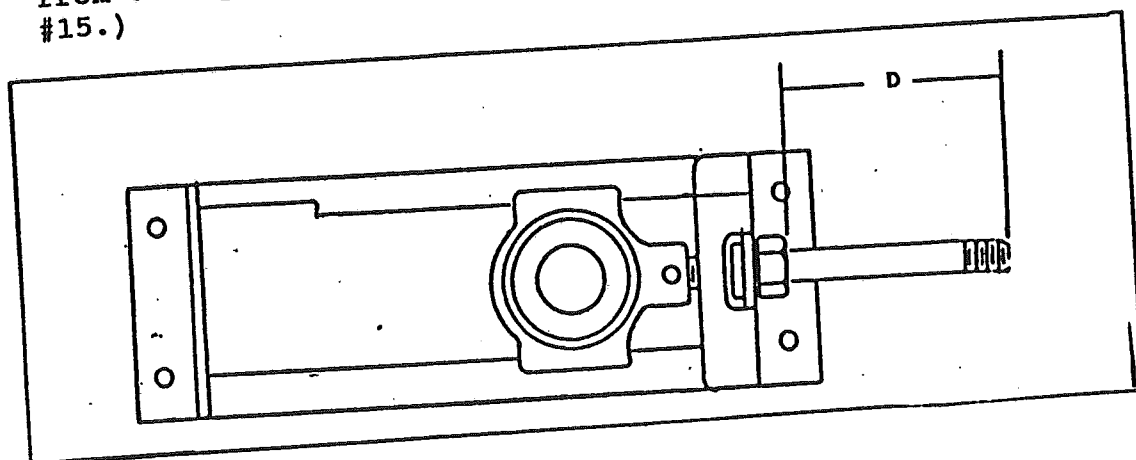

Figure 1
3. Use tape measure to adjust both take-up bearings evenly as shown in figure 1. Adjust tensioner to remove all slack from conveyor chain. Do not over tension. (See Photograph #15.)